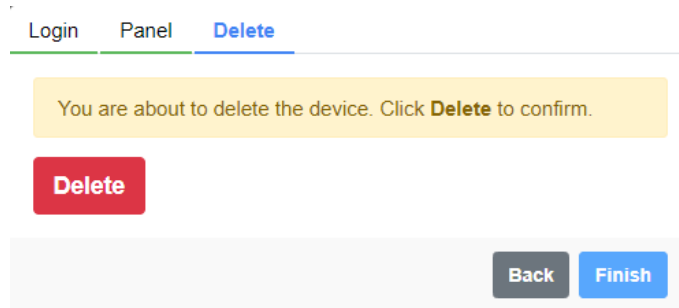

Figure 6.19: Screen with information on unlinking the Drive Scan from the MFM
Step 14 Confirmation is required to unlink the Drive Scan from the MFM, as shown in Figure 6.19.